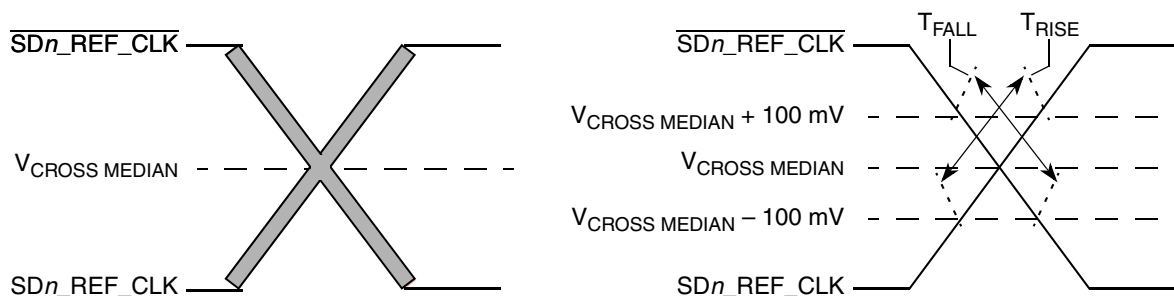

Figure 41. Single-ended measurement points for rise and fall time matching
- Matching applies to rising edge for SD_REF_CLKn and falling edge rate for SD_REF_CLKn. It is measured using a 200 mV window centered on the median cross point where SD_REF_CLKn rising meets SD_REF_CLKn falling. The median cross point is used to calculate the voltage thresholds that the oscilloscope uses for the edge rate calculations. The rise edge rate of SD_REF_CLKn should be compared to the fall edge rate of SD_REF_CLKn, the maximum allowed difference should not exceed 20% of the slowest edge rate. See Figure 41.